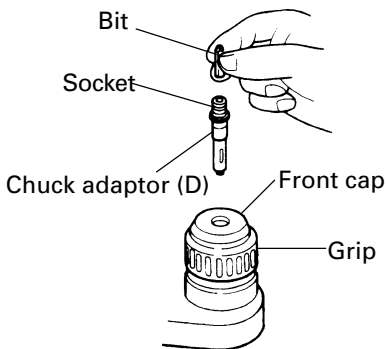

Fig. 15
4. When driving machine screws (Fig. 15)
- Do not attempt to use the rotary hammer in the rotation and striking function with chuck adaptor (D) and bit attached.
5. When driving wood screws (Fig. 15)